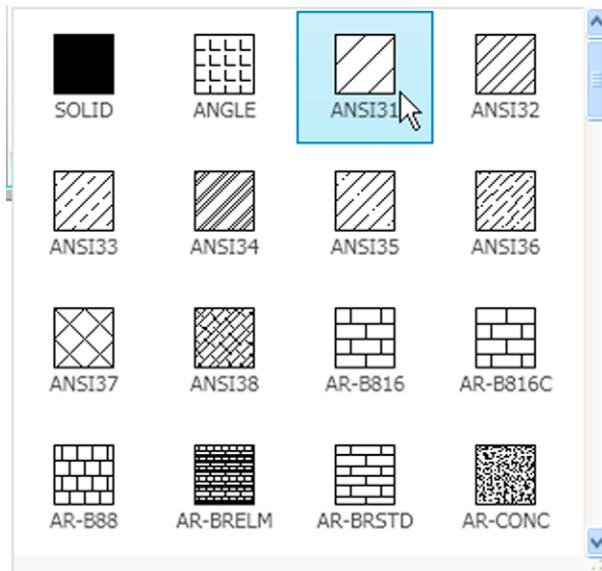

Fig. 7.13 Selecting **ANSI31** pattern from the Hatch Creation/Pattern panel
2. In the **Hatch Creation/Pattern** panel click the bottom arrow on the right of the panel and from the palette which appears pick the **ANSI31** pattern (Fig. 7.13).